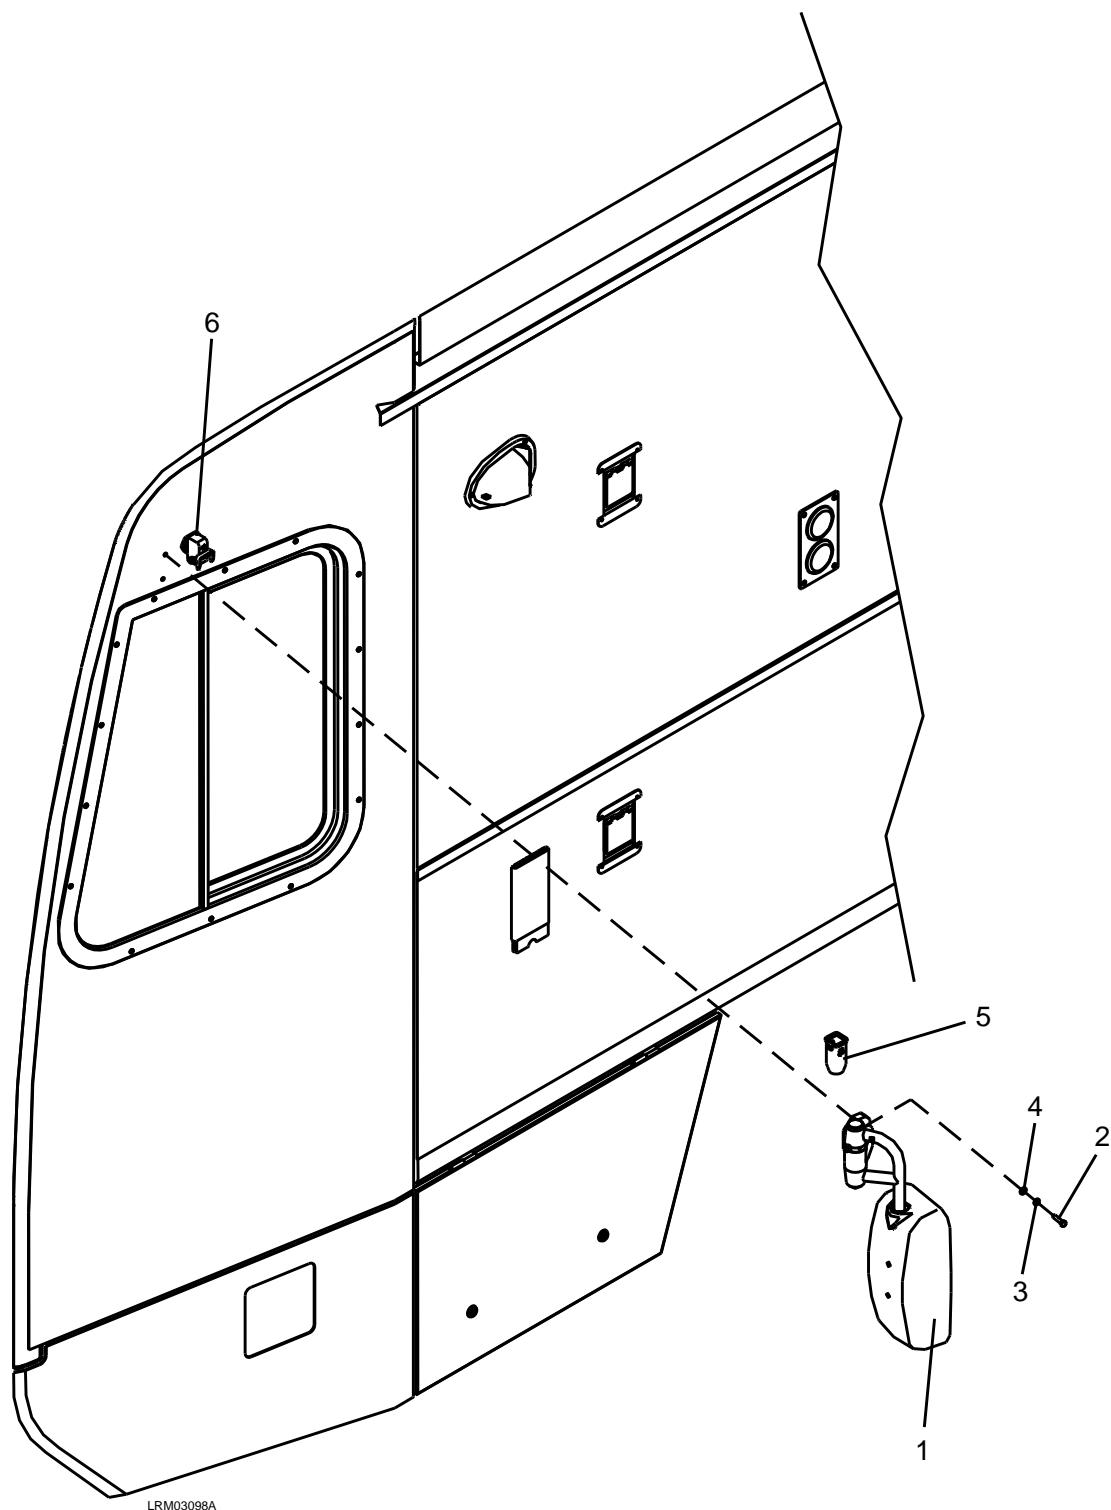

Figure 7-71: Exterior Mirror
3. Remove the two M8 x 35 bolts (2), M8 lock washers (3), and M8 plain washers (4). See Figure 7-71.
4. Carefully remove the Exterior Mirror (1) from the car body and disconnect the electrical connector (5) from the car body connector (6).